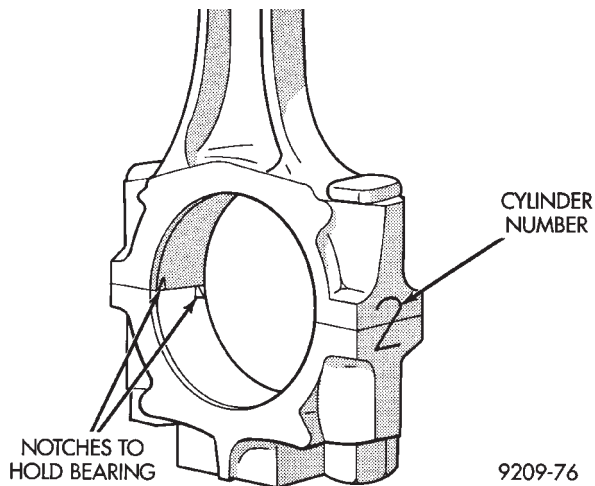

Fig. 15 Connecting Rod and Cap
(9) Check alignment marks made during disassembly and that bearing position notches new or used are on the same side as shown in (Fig. 15).